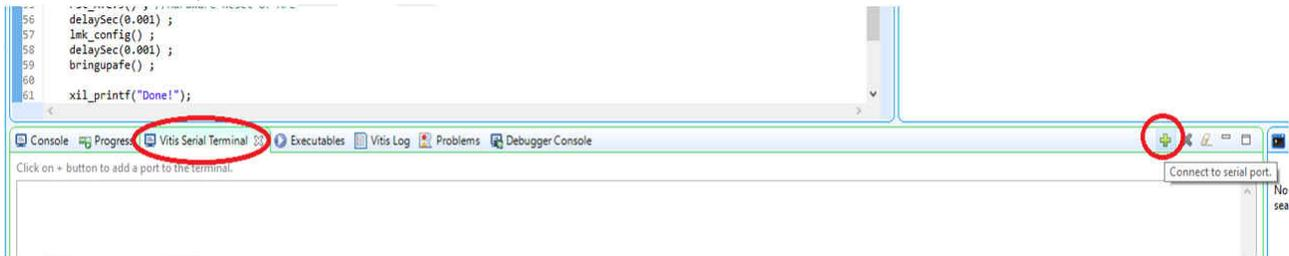

Figure 16-2. Vitis Serial Terminal
2. Connect the Vitis Serial terminal (see Figure 16-2) with baudrate 115200 (this can be used to see SPI write or read status).